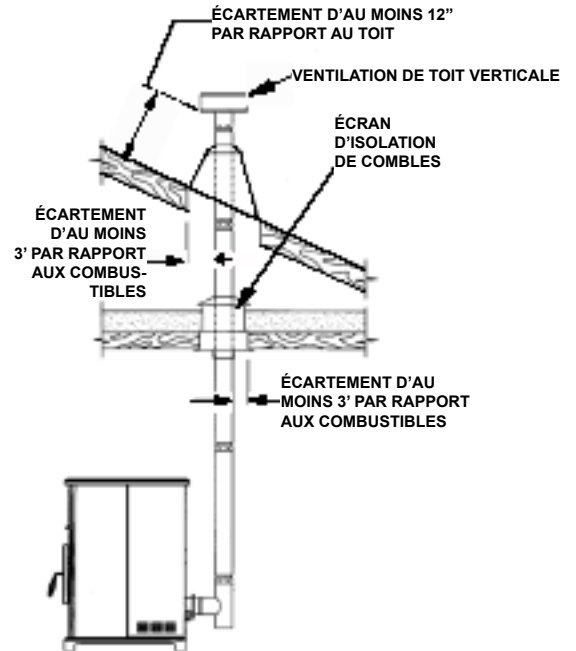

FIGURE 6
B. VERTICALEMENT AVEC UN SYSTÈME DE CHEMINÉE NEUF (Figure 6)